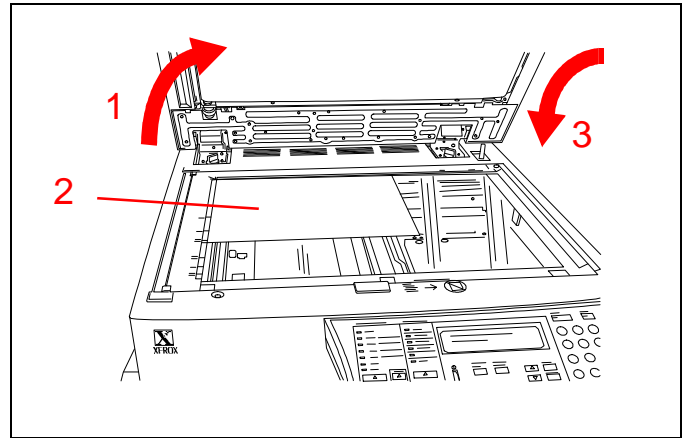

Figure 46
1. See Figure 46. Open the ADF or document cover.